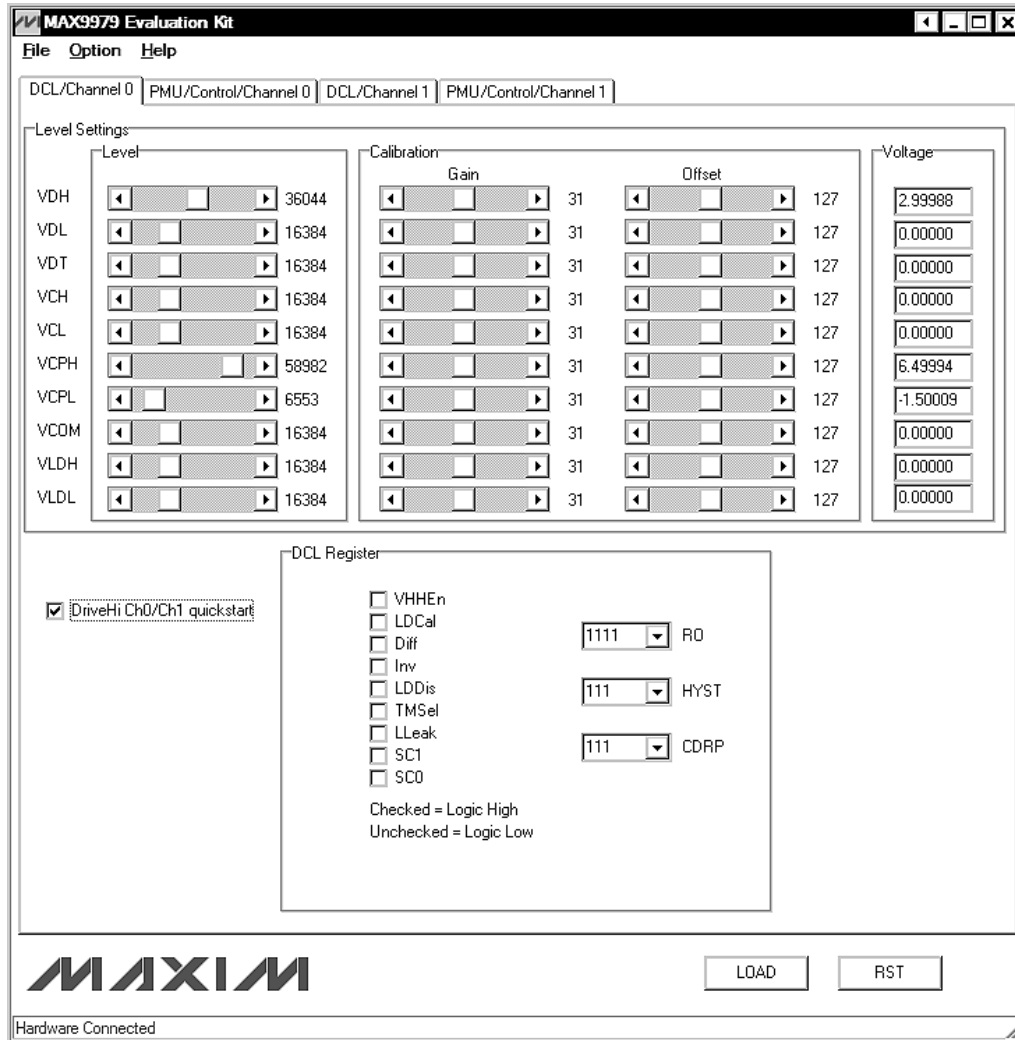

Figure 2. Quickstart Setup—Drive High Mode for Channels 0 and 1
- 17) Put the EV kit into drive mode by checking the **DriveHi Ch0/Ch1 quickstart** checkbox on the **DCL/Channel 0** tab sheet of the GUI, as shown in Figure 2. This is a quick start option and places both channel 0 and channel 1 into the drive-high mode. In this mode, VDH is set to 3V and VDL to 0V for both channels.